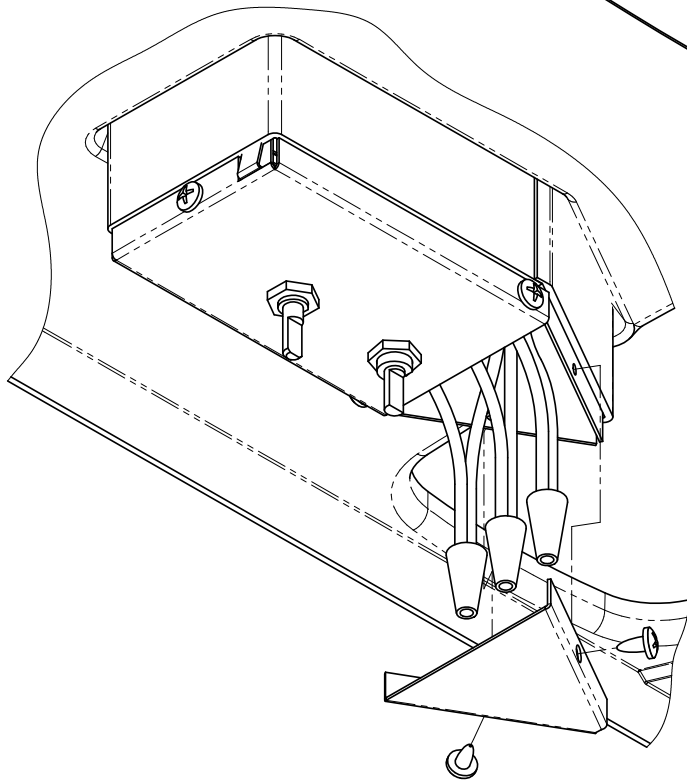

FIGURE 11
- D. Connect the supply power black conductor to the black pigtail wire, the white conductor to the white pigtail wire and the supply ground conductor to the green pigtail wire found in the wiring box using the 3 provided wire nuts. Using a U.L. approved electrical tape, secure the wire nuts to wires in a workmanlike manner (See Figure 11).
- E. Press supply conductors and wire nuts into wiring box and making sure no wires are pinched, secure the wire box cover with 2 provided screws (See Figure 11).